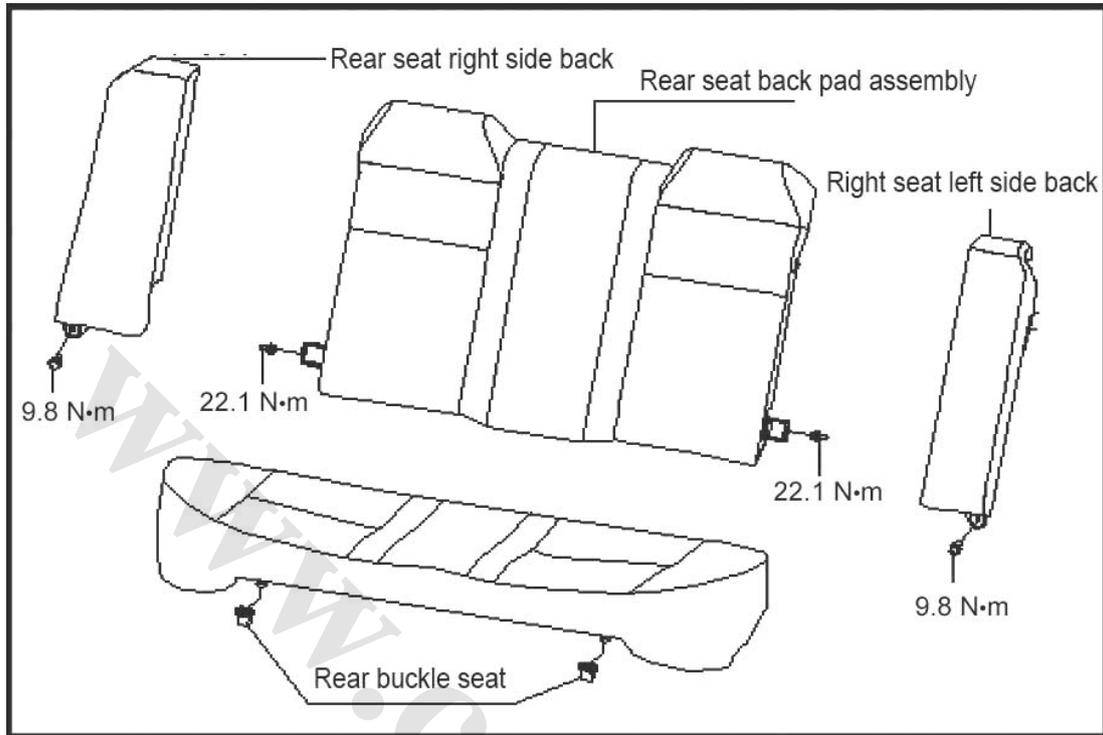

Fig. 7-16
- ① Hang a pothook on the body firmly (rear side).
- ② Put the seat frame carrier on the two pothooks (front side).
1. Structure of the components as shown in Fig. 7-16.